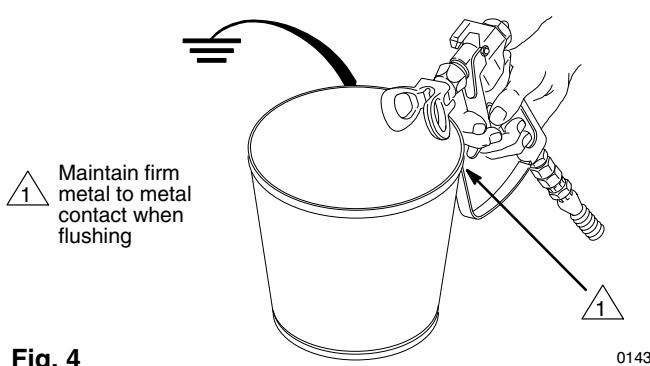

Fig. 4
- e. Hold a metal part of the gun firmly against a grounded metal waste container. See Fig. 4.